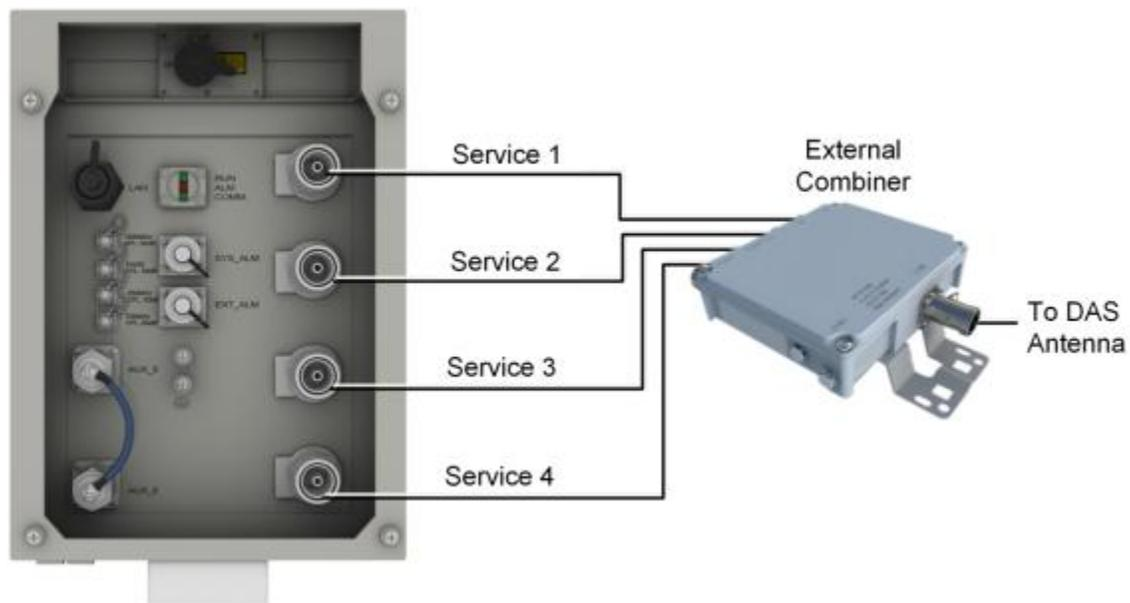

Figure 3-29. GX RF Connections with External Combiner
5. Connect external combiner RF output connector to broadband antenna. Refer to Figure 3-29.